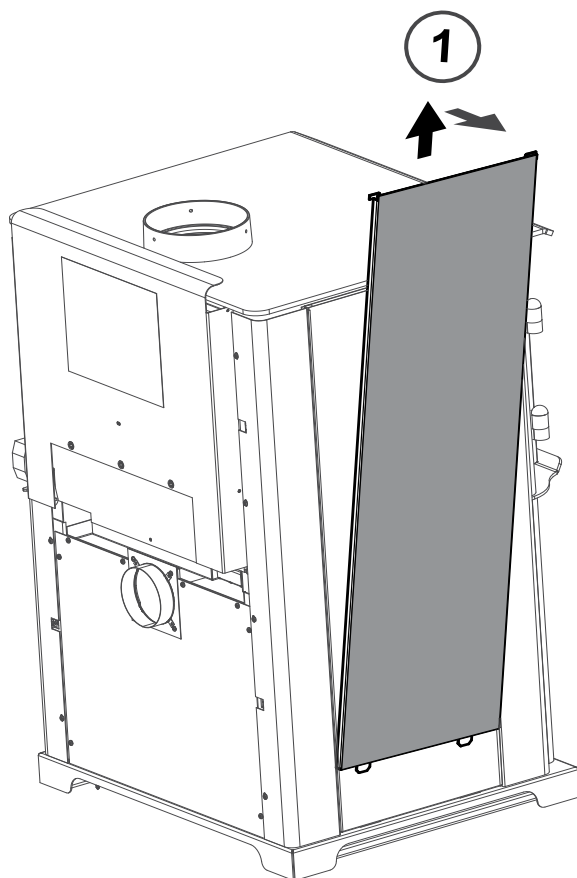

Figure 21.3
1. Remove solid panel from side by lifting up and pulling away from appliance (use a flat tool to pry from bottom if needed) (Figure 21.3).
2. Remove tile frame from side by lifting up and pulling away from appliance (Figure 21.3 reference solid side panel removal).